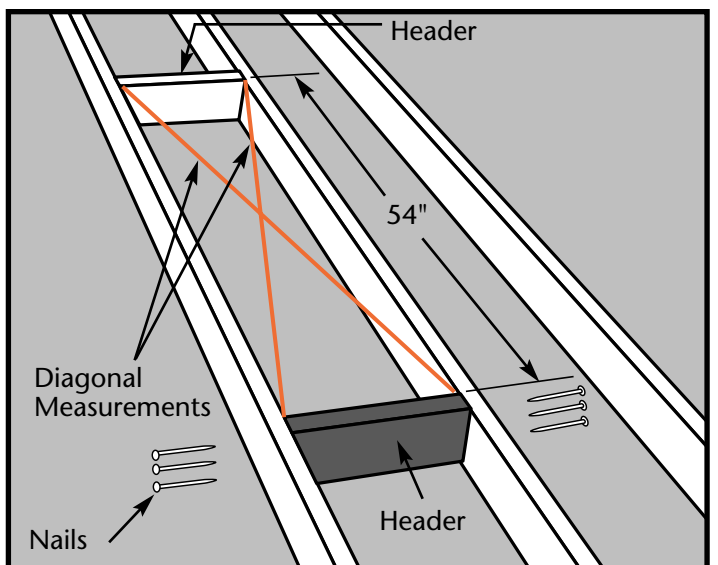

Figure 14
- STEP 5.** Position the second header 54 inches from the first one and repeat Step 4 (Figure 14).
- STEP 6.** The frame for the rough opening requires four sides. The headers make up two of those sides. If your ceiling joists are spaced so that they make up the other two sides of the rough opening, check the opening for squareness by measuring across the diagonals. The measurements should be within 1/8" to be considered square (Figure 14).